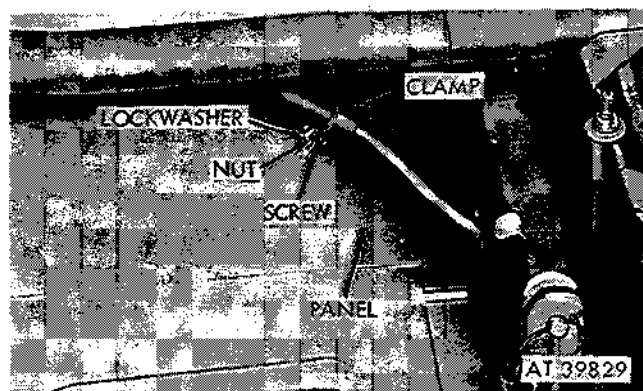

Figure 2-184. Remove clamp at body side panel sill.
(3) Remove nut, lockwasher and screw, and rubber covered clamp at inside of body side panel sill (fig. 2-184).